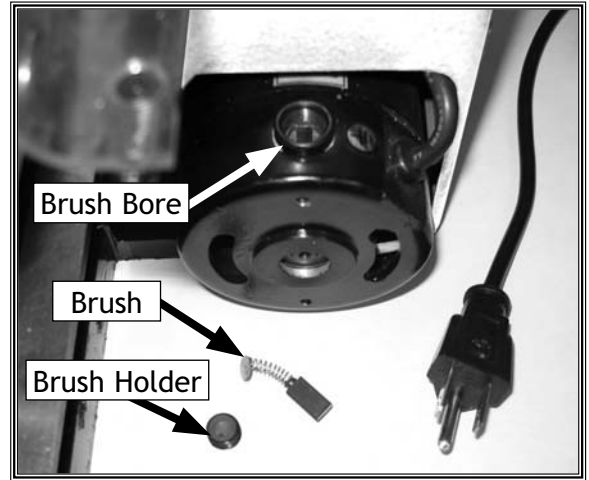

Figure 28. Motor brush and holder.
3. Unscrew two brush holders and replace the brushes in the brush bore (see Figure 28).